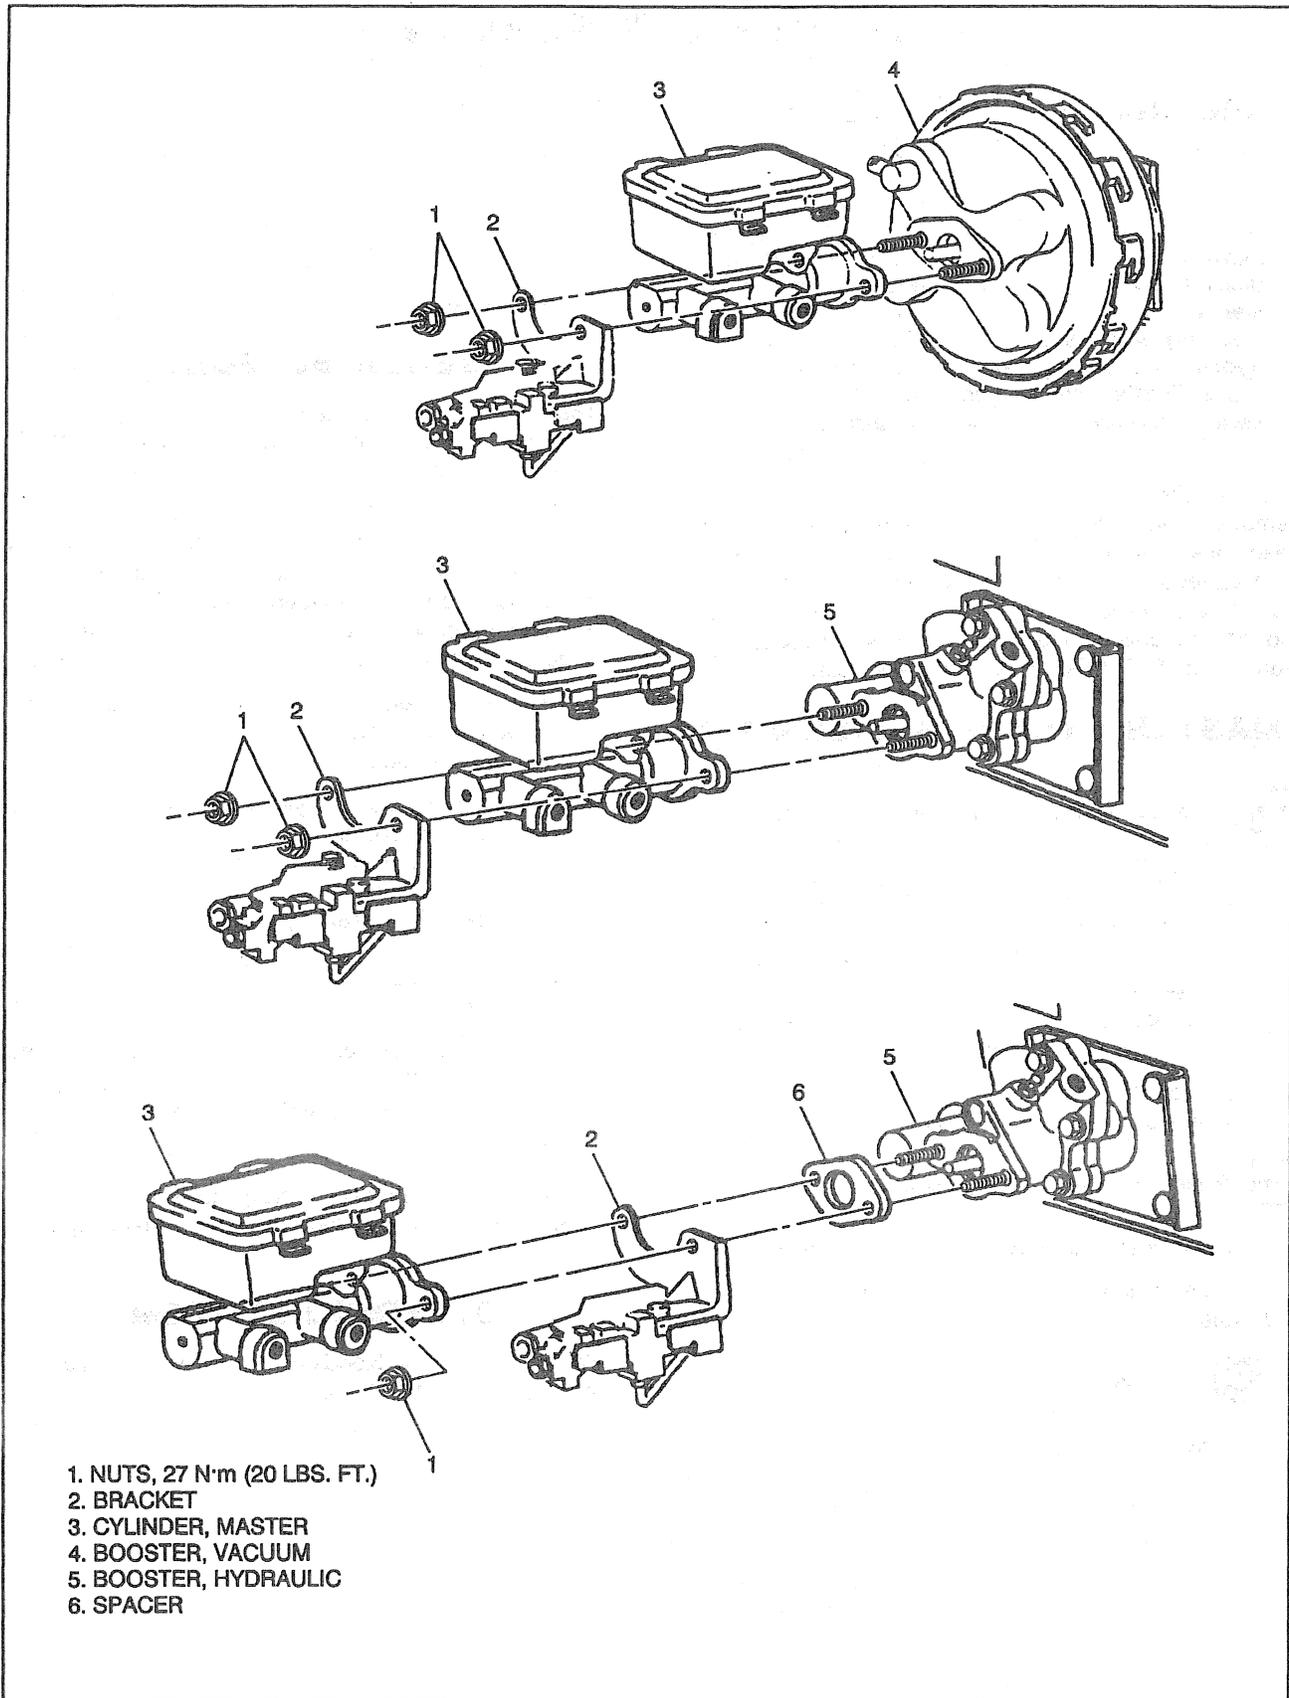

Figure 2—Master Cylinder
MASTER CYLINDER ASSEMBLY **Remove or Disconnect (Figure 2 or 3)**
2. Nuts (1).
3. Master cylinder (3) and bracket (2).
**Install or Connect (Figure 2 or 3)**
1. Master cylinder (3) and bracket (2).
- Nuts (1) to 36 N.m (27 lbs. ft.).